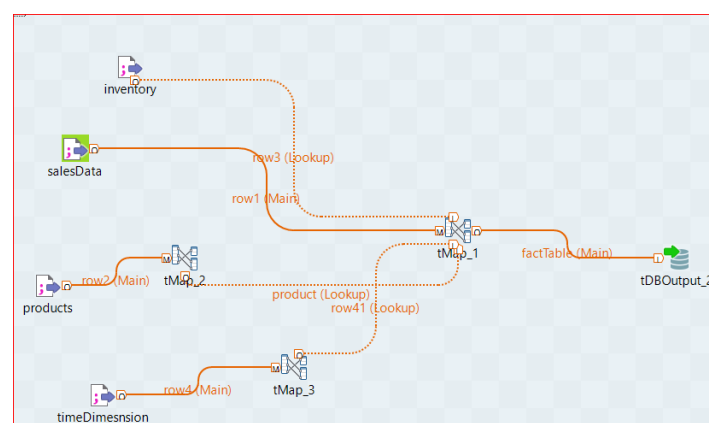

Figure 4: Job for Fact Table
- as shown on Figure 4 I used tmap_1 to merge the necessary columns and converting some columns to the right format (tMap_2 I converted the cost and price of the product to an integer by removing the \$